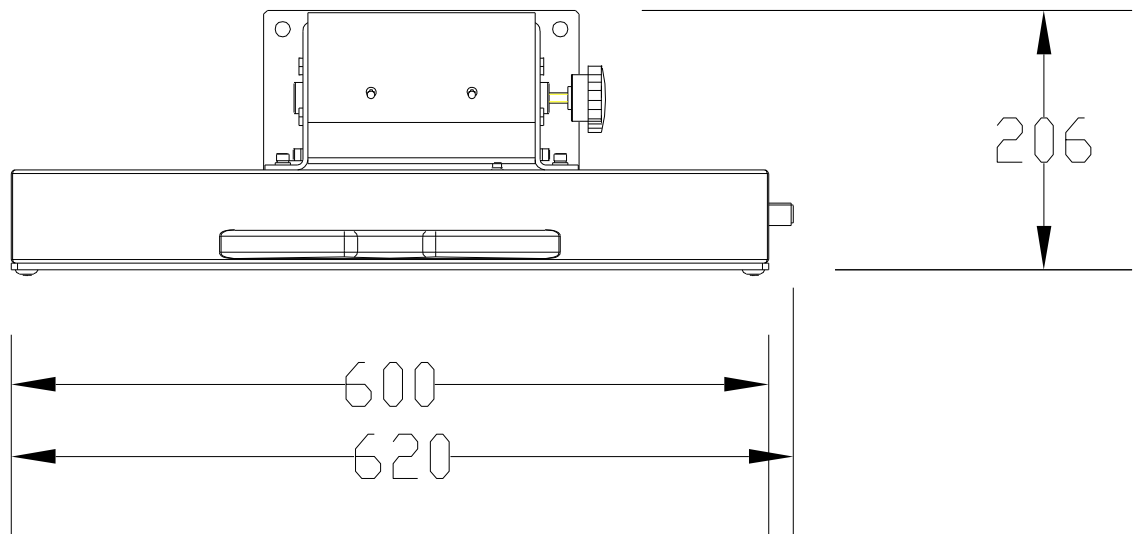

Figure 5-18 Standard Wall Stand Top View
- Basic Wall Stand - Figure 5-15 through Figure 5-18.